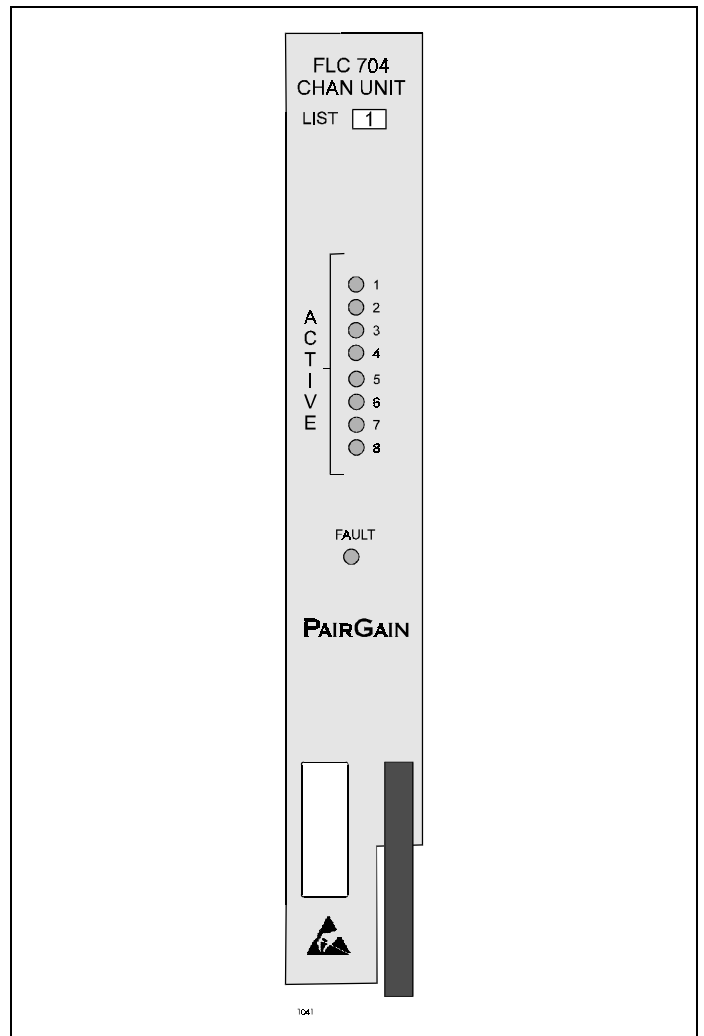

Figure 1. FLC-704 COT Channel Unit, List 1, Front Panel. The PairGain FLC-704 provides eight POTS interfaces between the Central Office and PG-Flex.
7.01 The front panel of the FLC-704 Channel Unit contains the following indicators (see Figure 1):